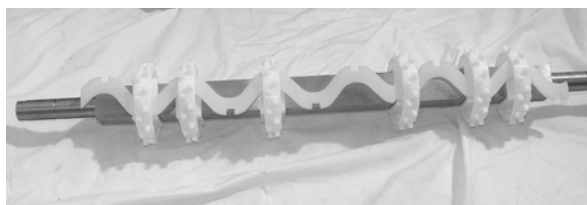

Figure 71
2. Slide the entire assembly onto the drive spindle (Figure 71).